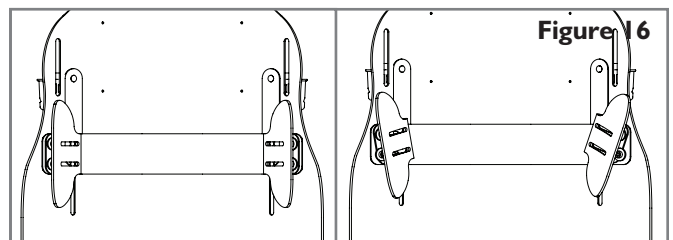

Figure 16
- a. Pass the hex key through the slots (A) in the positioning plates.
- c. Position the positioning plates as preferred (Fig. 16).